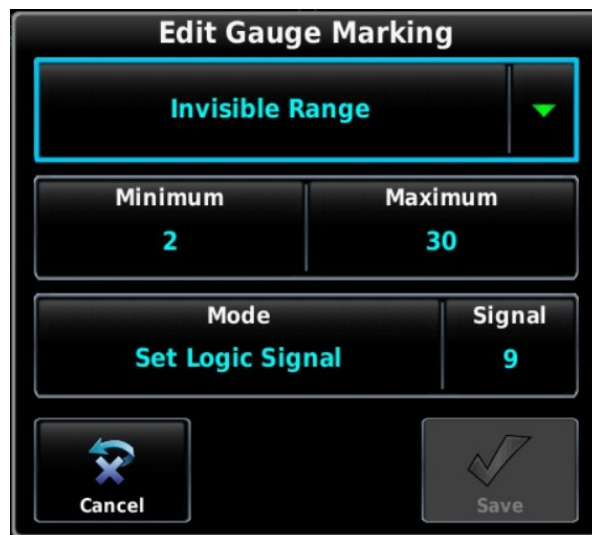

Figure I-2 Invisible Range
1. The Invisible Range (Figure I-2) extends from 2-30 degrees and is active anytime flap position is within 2-30 degrees. The result of activation of this Invisible Range is the set/clear state of Logic Signal 9 changing to “Set”.